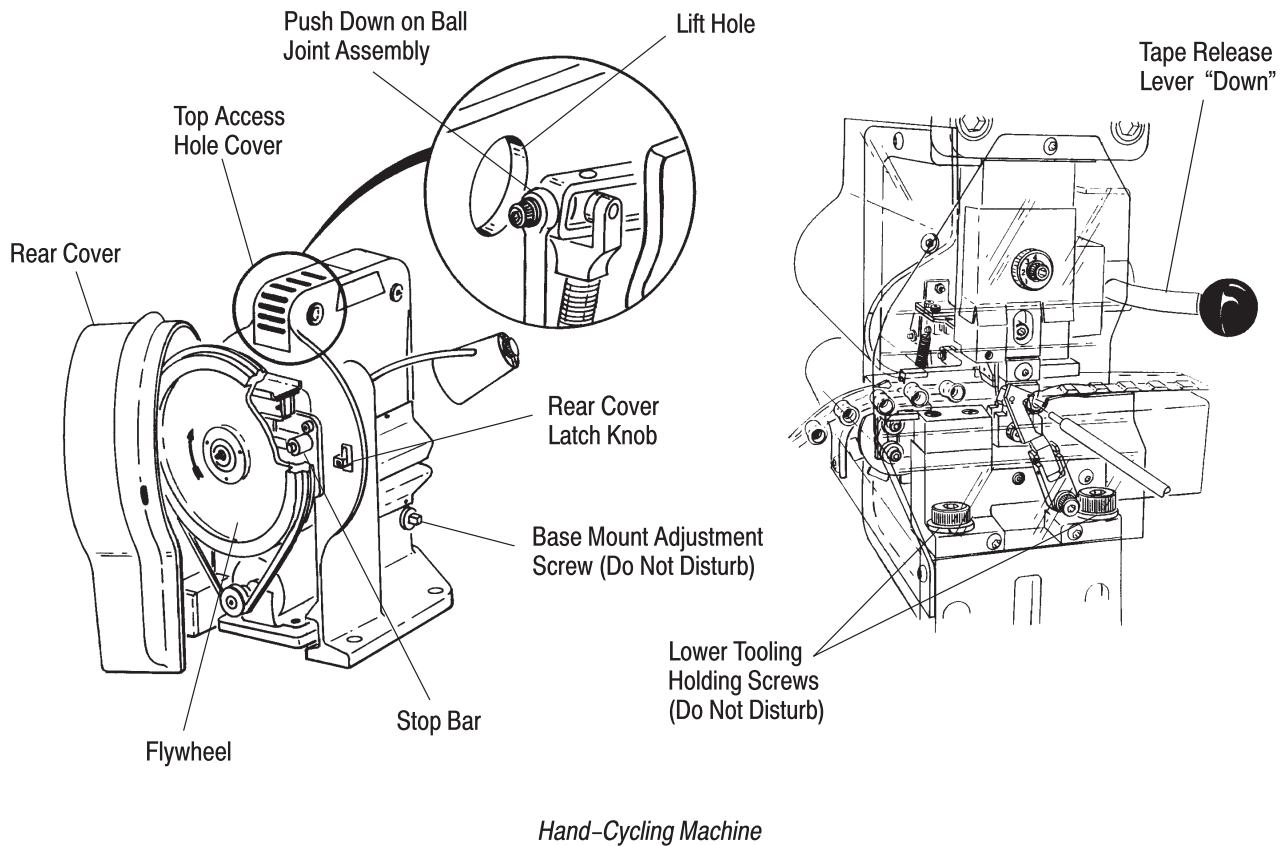

Figure 11
### 4.1. Hand-Cycling Machine (Figure 11)
2. Make sure the tape release lever is in the "down" position. See Figure 11.